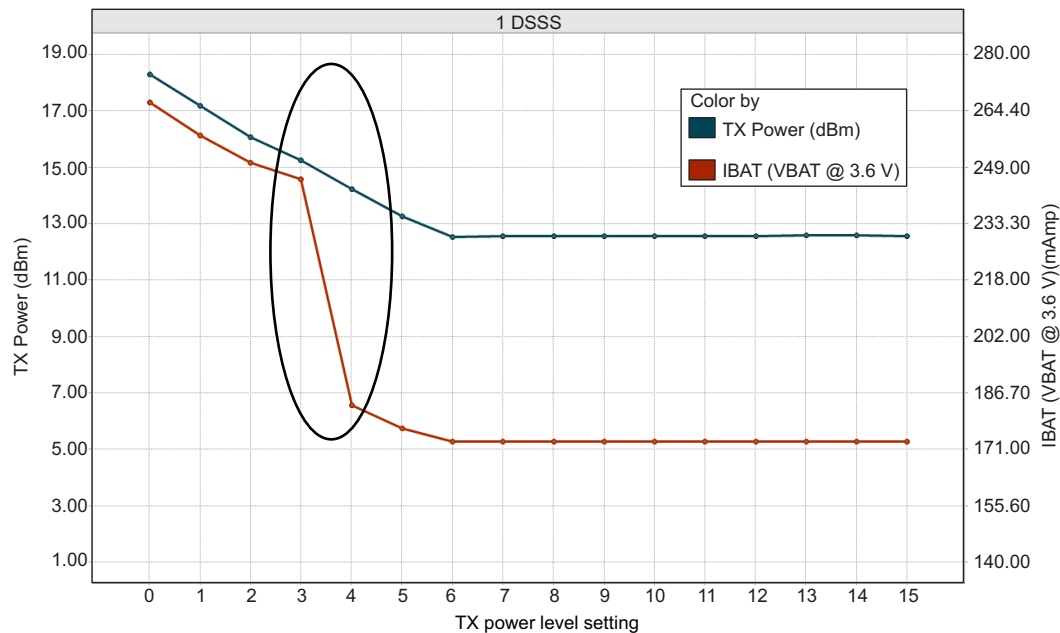
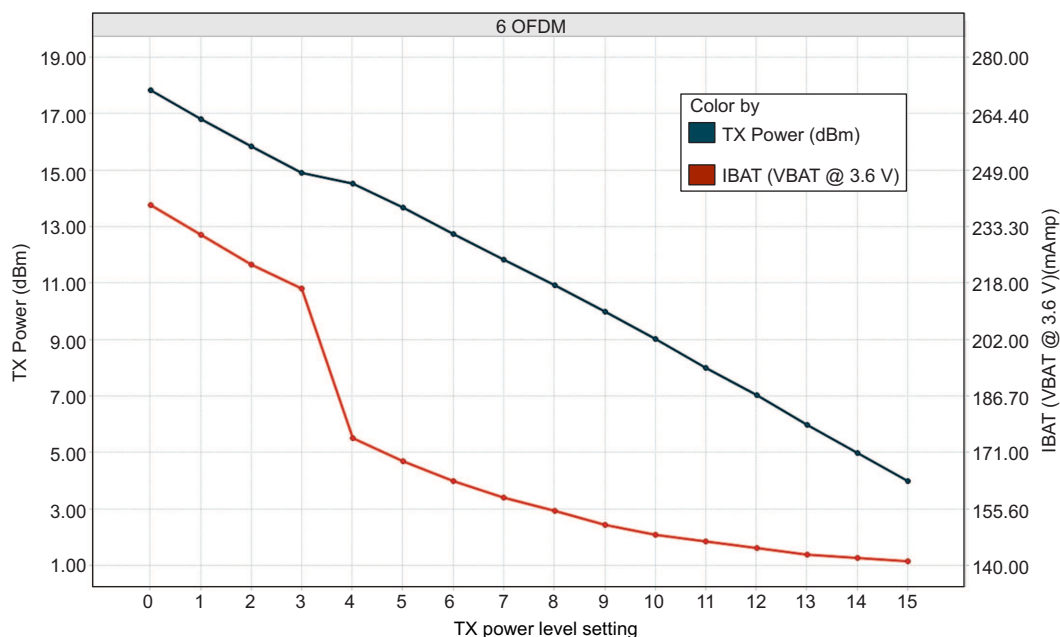
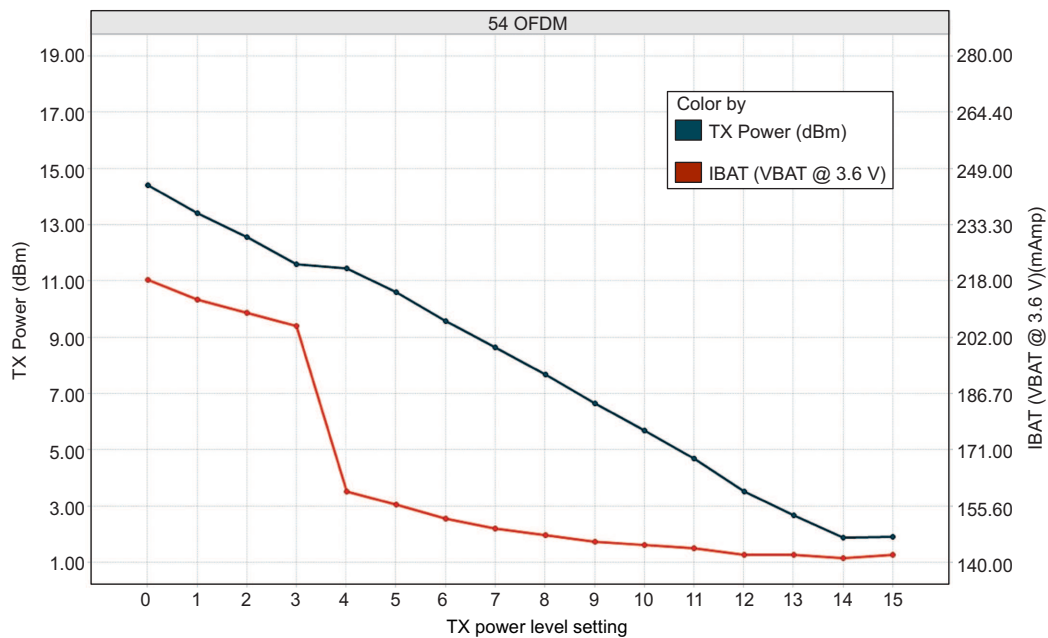

Figure 5-1. TX Power and IBAT vs TX Power Level Settings (1 DSSS)
Figure 5-2. TX Power and IBAT vs TX Power Level Settings (6 OFDM)
Figure 5-3. TX Power and IBAT vs TX Power Level Settings (54 OFDM)
(1) TX power level = 0 implies maximum power (see Figure 5-1, Figure 5-2, and Figure 5-3). TX power level = 4 implies output power backed off approximately 4 dB.
(2) The CC3220x system is a constant power-source system. The active current numbers scale based on the V_{BAT} voltage supplied.
(3) DTIM = 1
(4) LPDS current does not include the external serial flash. The LPDS number of reported is with retention of 256KB of MCU SRAM. The CC3220x device can be configured to retain 0KB, 64KB, 128KB, 192KB, or 256KB of SRAM in LPDS. Each 64-KB block of MCU retained SRAM increases LPDS current by 4 μA .
(5) The complete calibration can take up to 17 mJ of energy from the battery over a period of 24 ms. Calibration is performed sparingly, typically when coming out of HIBERNATE and only if temperature has changed by more than 20°C. The calibration event can be controlled by a configuration file in the serial Flash..
Figure 5-1, Figure 5-2, and Figure 5-3 show TX Power and IBAT versus TX power level settings for the CC3220R and CC3220S devices at modulations of 1 DSSS, 6 OFDM, and 54 OFDM, respectively. For the CC3220SF device, the IBAT current has an increase of approximately 10 mA to 15 mA depending on the transmitted rate. The TX power level will remain the same.
In Figure 5-1, the area enclosed in the circle represents a significant reduction in current during transition from TX power level 3 to level 4. In the case of lower range requirements (14-dBm output power), TI recommends using TX power level 4 to reduce the current.